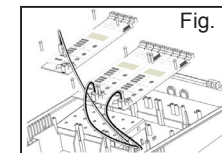

Fig. 1
2. Remove all modules of monoxide, removing the 4 screws and the connector plugged into the connector JP14. (Fig. 1)